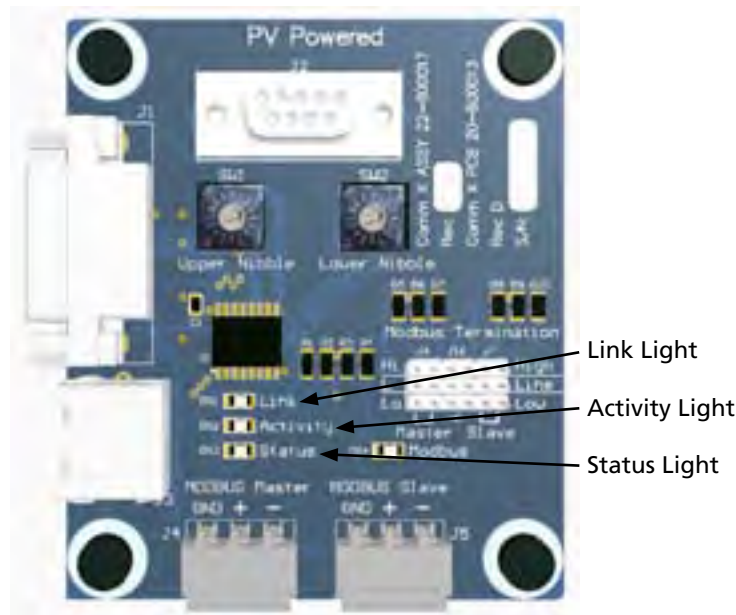

Figure 7-7 Comm X PCB Lights
- Comm X PCB – The additional set of LED lights are on the Comm X PCB located in the Data Monitoring Section in the front upper right of the inverter. These four lights are surface mount LEDs located near the Ethernet connector. Refer to Figure 7-7. These lights are redundant and are synchronized with those in the Power Module cabinet's Communication card.